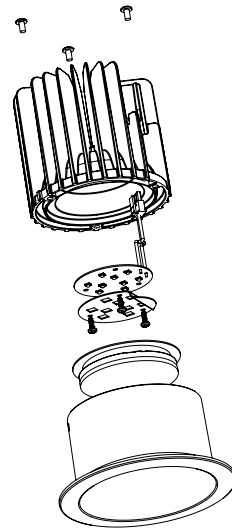
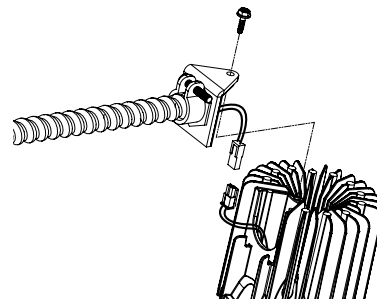
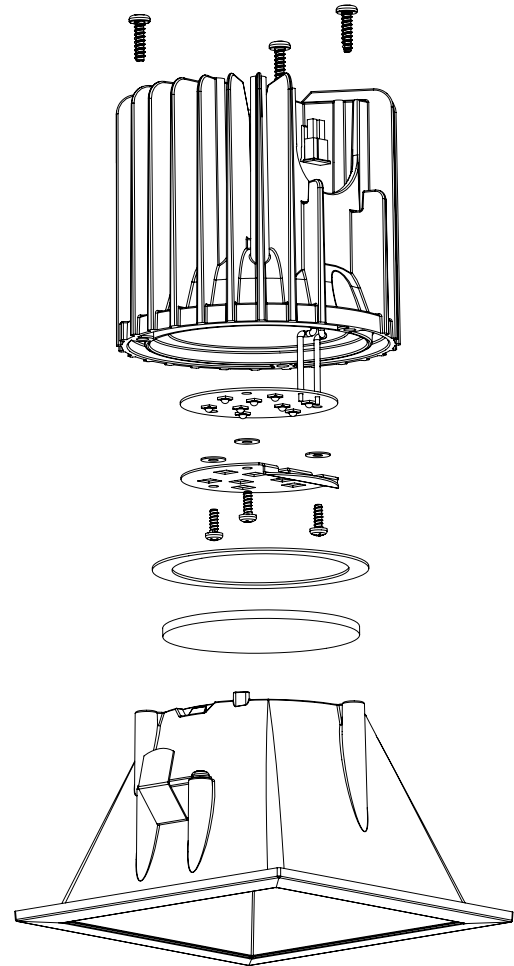

FIGURE 6
FIGURE 5
FIGURE 6
2. Disconnect conduit adapter by loosening screw. (See Figure 5)
4. Remove heatsink from lower housing by removing (3) screws and lifting off.
5. Remove (3) screws, reflector plate and insulator as shown in Figure 6. LED module may then be removed and replaced.
8. Secure the LED module, insulator and reflector plate to the housing by re-installing the (3) screws. See Figure 6.
9. Re-assemble the heatsink to the lower housing by replacing the (3) screws.
2. Fasten conduit adapter to trim housing using the screw provided (see Figure 5).
4. Remove (4) screws and remove adjustment ring.
2. Secure the LED module, insulator and reflector plate to the housing by re-installing the (3) screws. See Figure 6.
3. Re-assemble the heatsink to the lower housing by replacing the (3) screws.